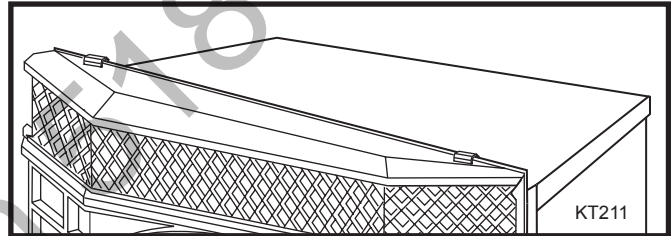

Fig. 54 Engage the slots in the upper grille top louvre with the upper tabs of the hanging bracket.
5. Install the upper grille by engaging the oblong holes with the upper tabs of the hanging brackets. (Fig. 54)
6. Install top louvre by engaging the oblong holes with the upper tabs of the hanging brackets. (Fig. 54)